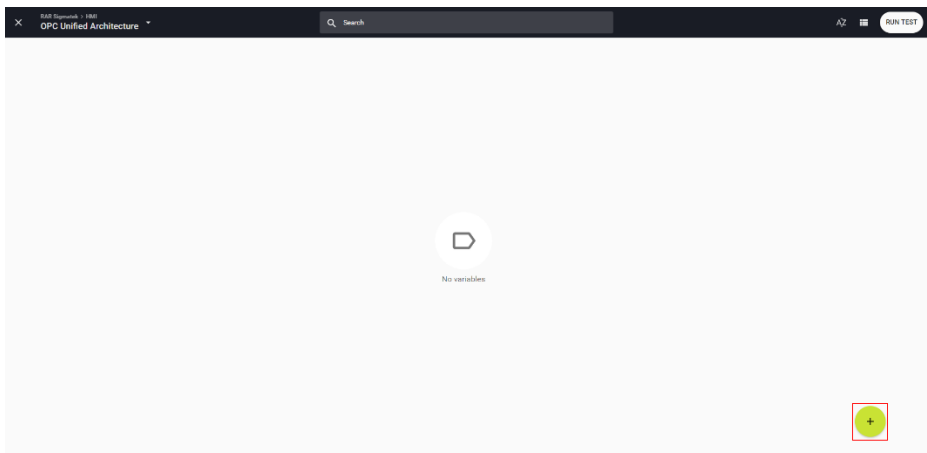

Figure 5.66 Data Configuration interface.
- d. Click on the "+" symbol in the Data Configurator to provide data for recording (Figure 5.66).